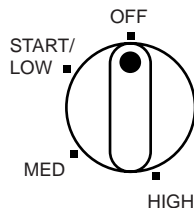

Figure 8 - Control Knob Positions
6. Turn control knob to the low position and push in (see Figure 8). Hold knob in and push piezo ignitor button 3-8 times until the main burner lights. When main burner lights, keep automatic control valve knob pushed in. Release button after 30 seconds.